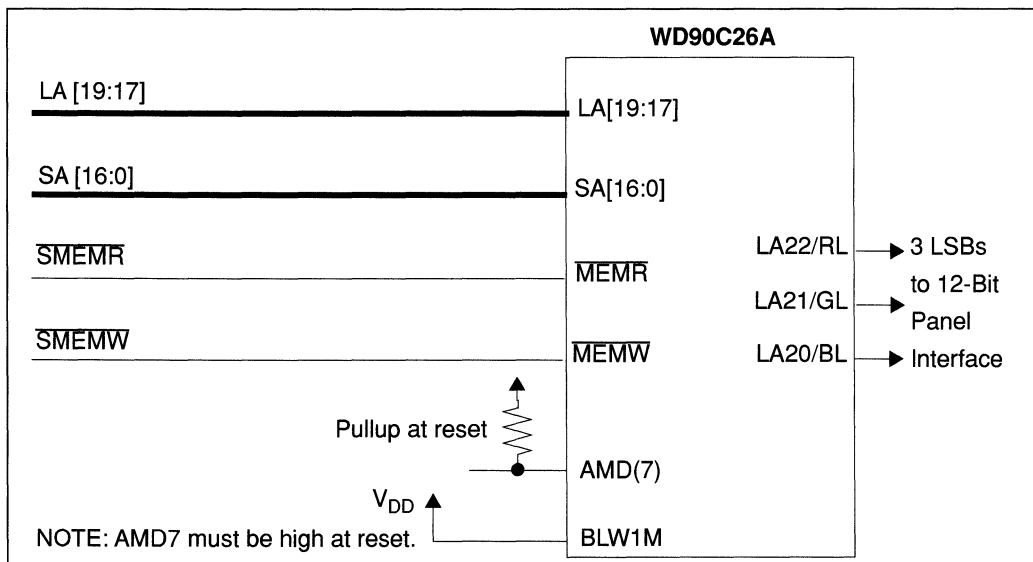

FIGURE 6-29 USING SMEMR AND SMEMW WHEN CONNECTING A 12-BIT RGB PANEL INTERFACE
- Using $\overline{\text{SMEMR}}$ and $\overline{\text{SMEMW}}$ when Connecting a 12-Bit RGB Panel Interface (Figure 6-29)